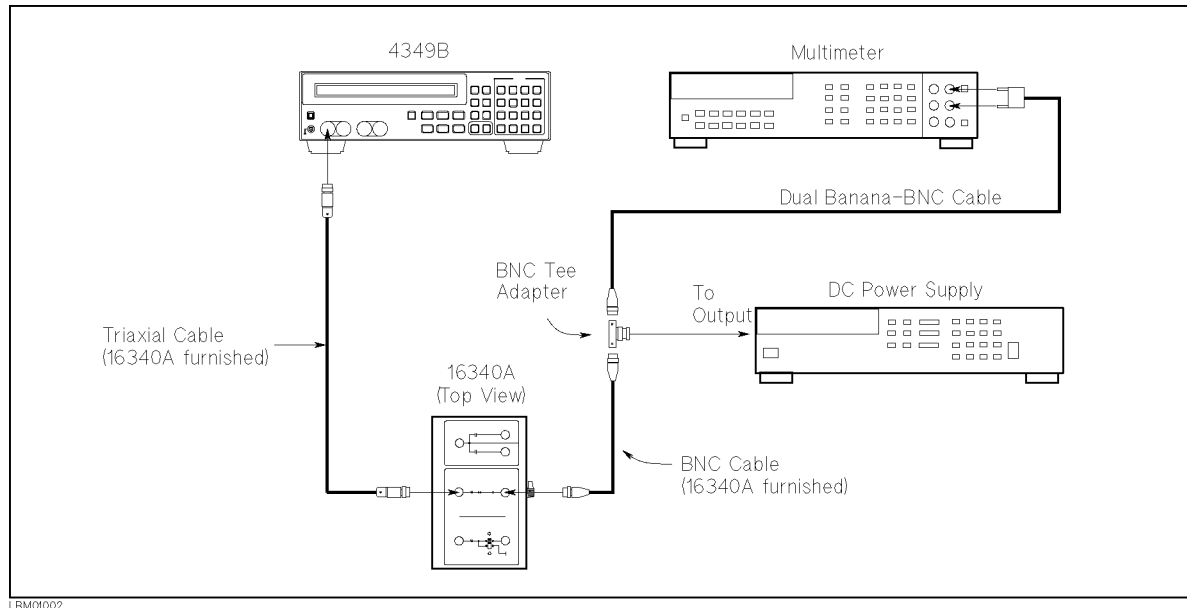
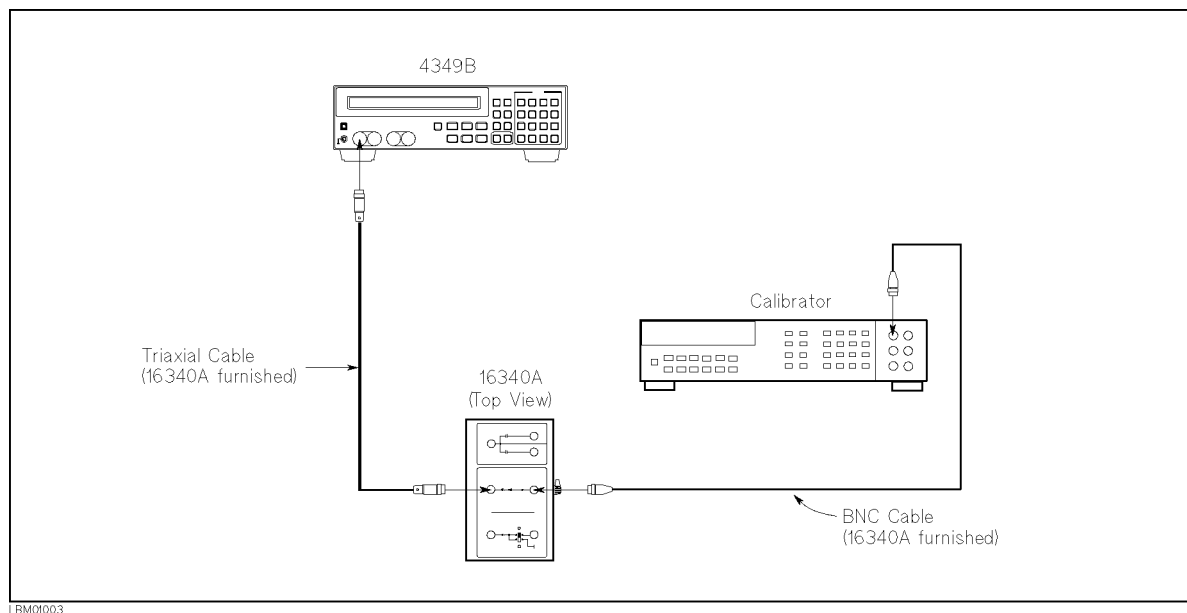

Figure 9-8. Resistance Measurement Accuracy Test Setup Using DC Power Supply
Figure 9-9. Resistance Measurement Accuracy Test Setup Using DC Voltage Calibrator
7. Set up the equipment as shown in Figure 9-8. If the DC Voltage Calibrator listed in Table 9-2 is available, setup the equipment as shown in Figure 9-9.